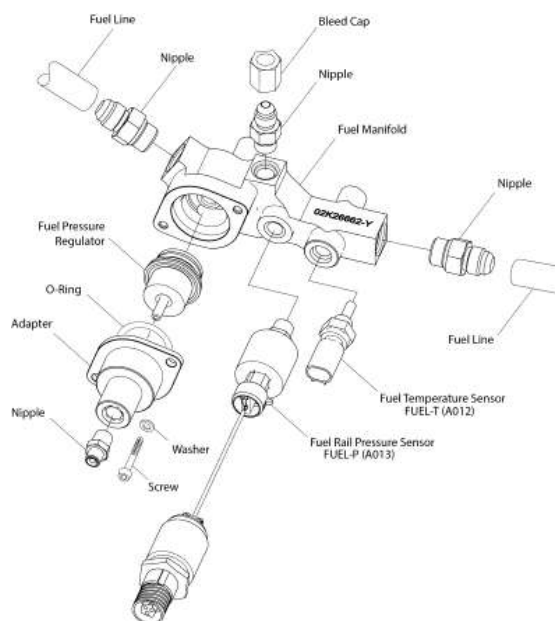

Figure 13
- (1) Put a fuel collection container under the engine where the fuel hose connects to the fuel manifold return.
- (2) Loosen the cap on the fuel pressure regulator bleed port to release pressure from the fuel hoses.
- (3) Remove the pressure source line connected to the inlet nipple on the adapter for the fuel pressure regulator (Figure 13).
- (4) Remove the two screws and washers (that attach the fuel pressure regulator adapter to the fuel manifold).
- (5) Remove the fuel pressure regulator adapter and O-ring. Discard the O-ring.
- (6) Remove the fuel pressure regulator from the fuel manifold.
- (7) Remove the fuel collection container and dispose of the fuel in accordance with environmental regulations.
- (1) Install a new O-ring on the adapter (Figure 13).
- (2) Install the adapter on the fuel pressure regulator.
- (3) Install the fuel pressure regulator/adapter on the fuel manifold until the adapter is seated against the mating face of the fuel manifold.
- (4) Install the two screws each with a washer to attach the adapter and fuel pressure regulator to the fuel manifold.
- (5) Torque the screws to the specified limits as per the Standard Torque Tables in the latest revision of the *Service Table of Limits - SSP-1776*.
- (6) Connect the pressure source line to the inlet nipple on the adapter for the fuel pressure regulator.
- (7) Install and tighten the bleed cap on the fuel pressure regulator bleed port.